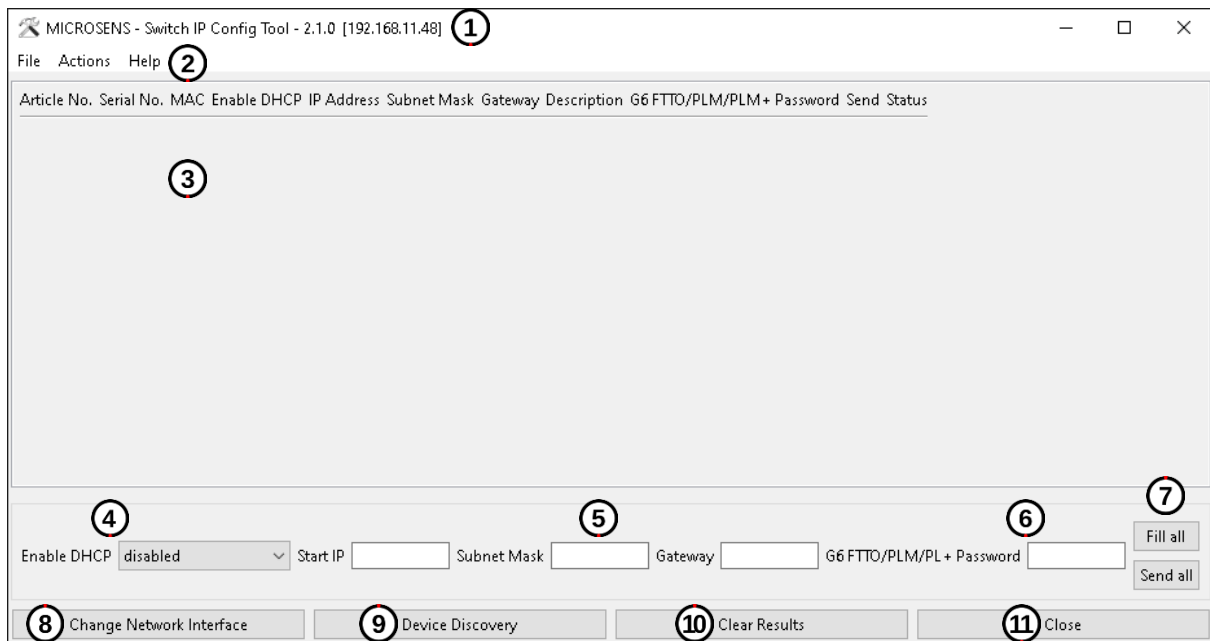

Fig. 5: Start Screen
- ③ - Information pane that provides information about MICROSENS devices found in the broadcast domain.
- ④ - DHCP settings
- ⑤ - IP settings
- ⑥ - Password for G6 devices
- ⑦ - Editing of multiple devices at once
- ⑧ - Change the network interface.
- ⑨ - Start the device search.
- ⑩ - Clear the search results in the information area (③).
- ⑪ - Close the application.
The menu bar (see Fig. 5, ②) contains the following entries:
Close the application (identical to Fig. 5, ⑪)
Select another IP interface from the drop-down list if necessary (identical to Fig. 5, ⑧)
Search for all MICROSENS devices in the connected corporate network (identical to Fig. 5, ⑨)
Clear the information area list from previously found devices (identical to Fig. 5, ⑩)
After start up the information pane (Fig. 5, ③) is empty. Providing that the correct IP interface is selected a click on the button "Device Discovery" (Fig. 5, ⑨) will start the network scanning process.